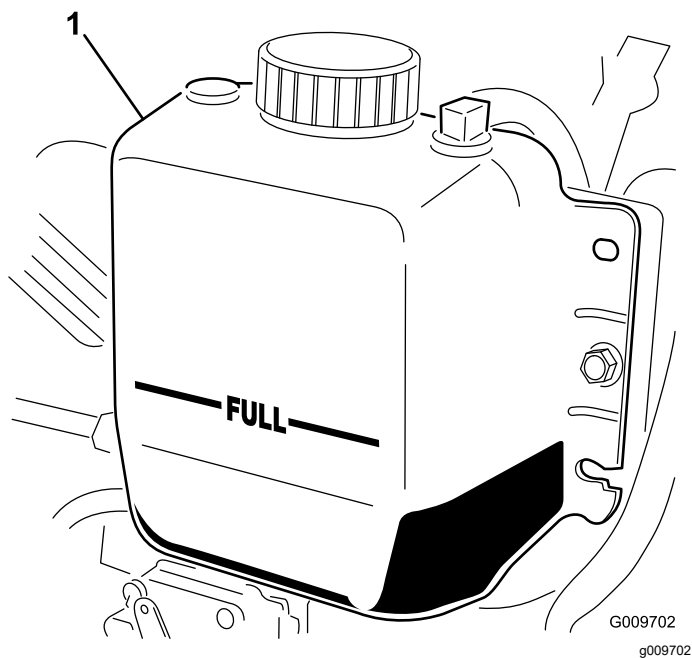

Figure 77
3. Check the coolant level in the radiator. The radiator should be filled to the top of the filler neck and the expansion tank filled to the FULL mark (Figure 77).